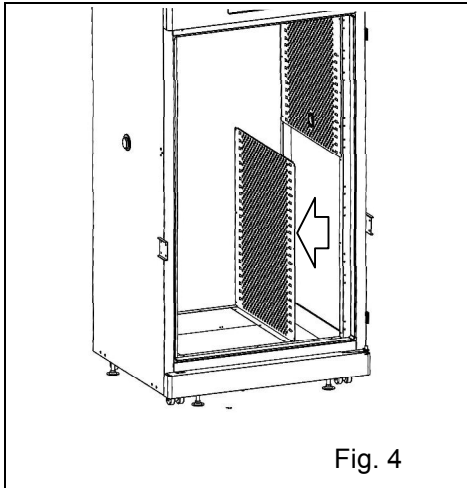

Fig. 4
5. Remove screws of the side ducts to dismount four side ducts. See Fig.4.